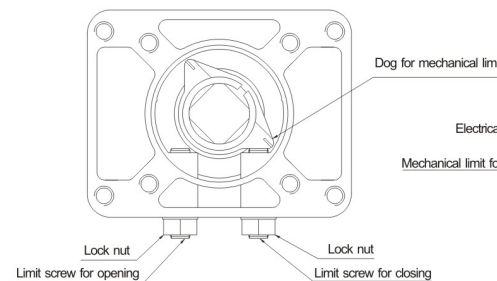

Fig. 6
4、Adjustment of Mechanical Limit (Mechanical Protection), refer to Fig. 6 , 7.